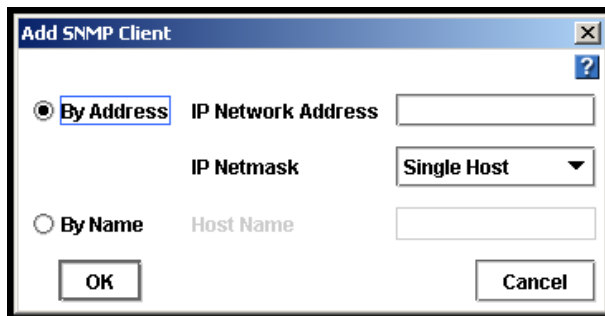

Figure 114. Adding an SNMP Client
1. Click Add to add an SNMP client. The Add SNMP Client window opens, shown in Figure 114. You can add SNMP Client either by specifying IP addresses or host names.